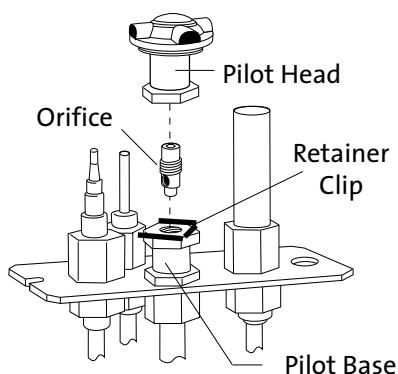

Figure 26. Pilot orifice removal and replacement.
11. **CHANGE THE PILOT ORIFICE:** From within the firebox, remove the Pilot Head by pulling it straight up from the pilot base. See fig. 26. Using the 4 mm hex key included with the kit, unscrew the pilot orifice (counterclockwise). Replace with the appropriate orifice: